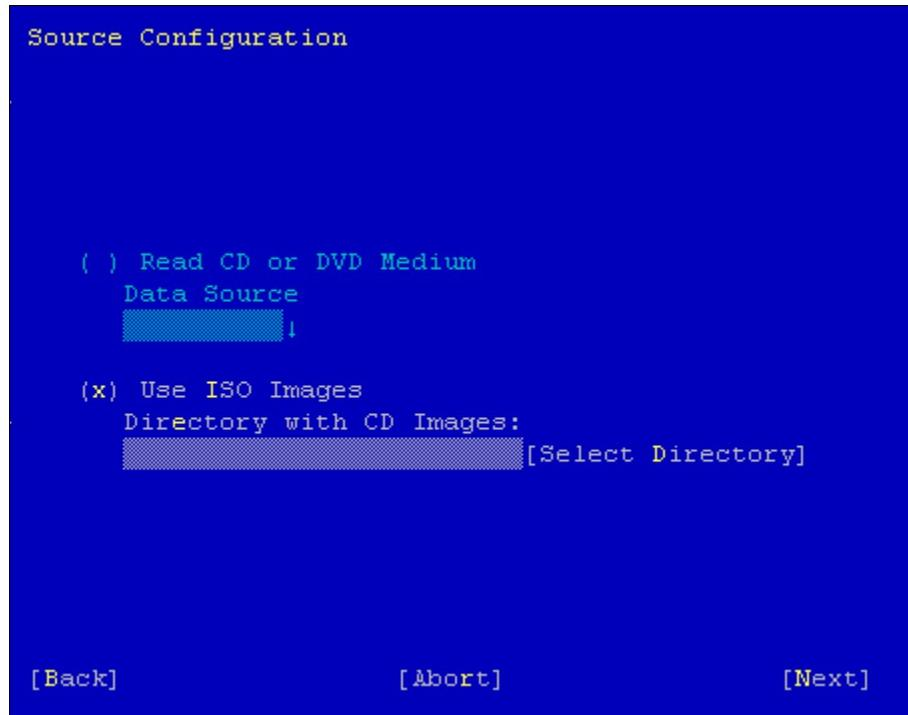

Figure C-3 Source configuration window
9. At the Source Configuration window, if you have a DVD of the operating system, click the check box. Otherwise, if you have ISO images of the DVD contents, select the second check box and browse via Select Directory to the directory that contains all ISO images of all CDs (see Figure C-3 on page 543).
- 11.If you chose the Read CD or DVD Medium option given in Figure C-3, you will be prompted to insert the first DVD.